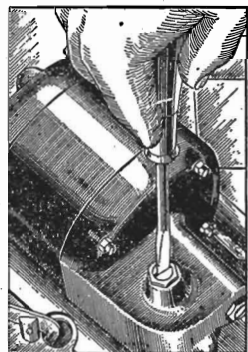

Figure 8—Adjusting spindle height
- (a) Improper turntable spindle height. The height of the turntable spindle nose should be approximately $\frac{1}{32}$ above the inside bottom surface of the record magazine. Adjustment of this height made by means of the screw at the bottom of the motor. (See Figure 8).